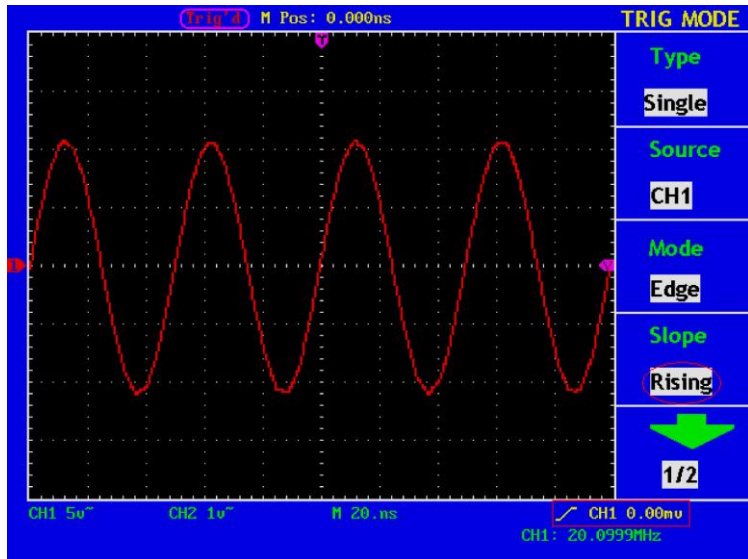

Fig. 38 Edge trigger (Rising Wave, the first menu)
5. Press "F4" to choose slope as "Rising". Display as Fig.38